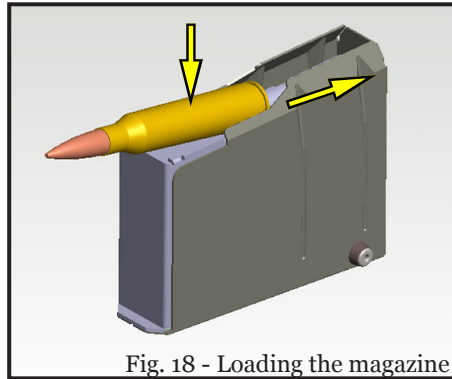

Fig. 18 - Loading the magazine
1. Press the cartridge against front part of the magazine so that the case head seats under the retaining lips of the magazine. (Fig. 18)